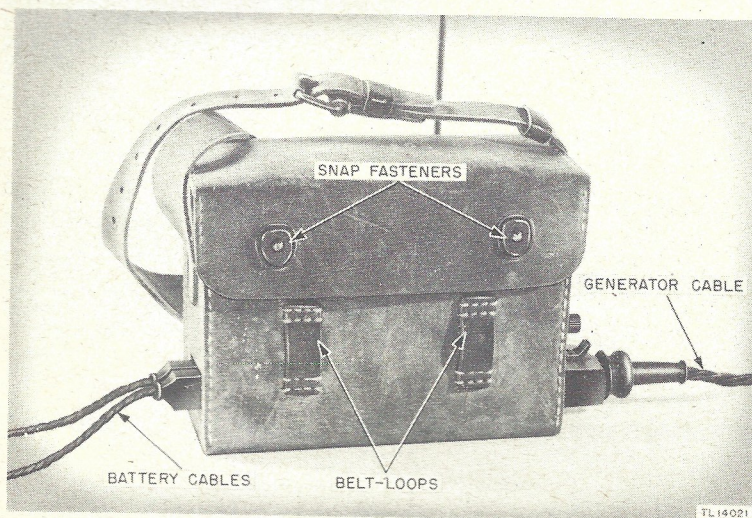
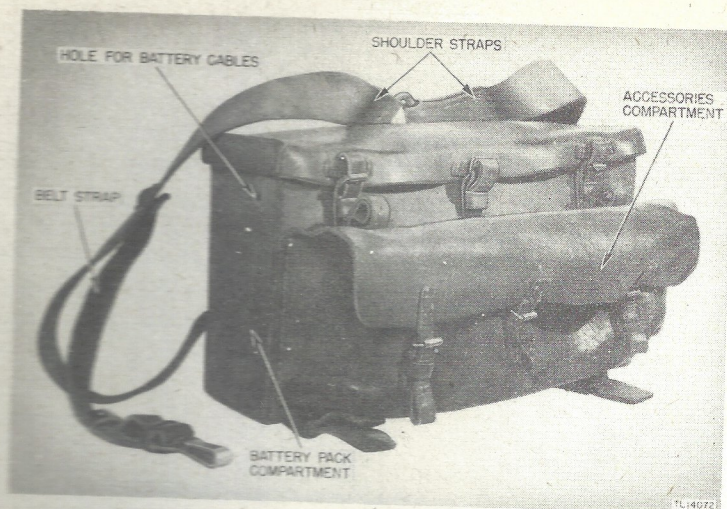

Figure 2. Japanese Radio Set Model 94 Mark 6, front view, in carrying case.
Figure 10. Carrying case for Japanese battery pack and accessories.
is used for both tone and voice communication by ground troops in forward areas, and can be used in nets with American amplitude-modulated radio sets within the frequency and distance range. The set is a lightweight and compact unit employing one tube which is incorporated into either the transmitting or receiving circuit as required. A metal case houses the transceiver unit, and a rubberized fabric or leather carrying case with strap (fig. 2) is provided for transporting the set during
cables are carried in the accessories compartment of the battery pack carrying case (fig. 10). As a means of further identifying the various Japanese set control designations, three sets of identifying name tabs are provided which may be cut out and affixed to any Japanese set being used. These name tabs are shown in figures 27, 28, 29, and 29a. Views of the set with name tabs are shown in figures 15, 25, and 26.
a lightweight metal case. Fiber insulation covers the interior of the case where splices between batteries and the cables are made. The battery pack is fitted into a leather carrying case (fig. 10) designed for strapping on the operator's back. The plate and filament voltages are corded to the set with separate two-wire cables. The cables terminate in two-connector sockets which are plugged into the battery cable plug in the set, side by side. Refer to figure 2. The pin arrangement of the battery cable plug prevents incorrect insertion of the two-connector sockets. See paragraph 3 for detailed information on the substitution of American type batteries for Japanese batteries.
a. General. The set is primarily intended to be used as a portable set operated by two men. The transceiver unit and battery pack are slung to the operator by carrying straps, and the generator is carried by the second man as shown in the frontispiece. When a battery pack is used to provide the power supply, one man can carry and operate the entire set (fig. 4). If American type batteries are used to make up the battery pack, it may be necessary to discard the Japanese carrying case because of size limitations. If so, carry the battery pack in a musette bag or similar type of case. Two leather belt-loops on the front of the transceiver unit carrying case (fig. 2) enable the operator to strap the set close to his body and prevent excessive movement during portable operation. For operation of the set as a fixed installation, the transceiver unit is placed on a firm supporting structure and the hand generator, if used, is mounted on a supporting stand by means of the base plates.